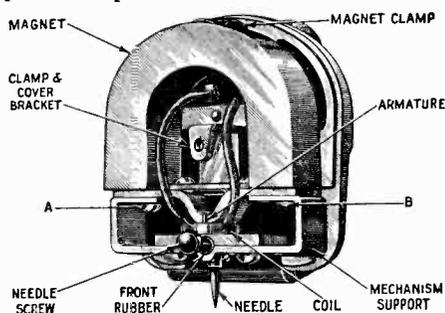

Figure 10—Pickup Nomenclature
- (d) Remove screws A and B, Figure 10, and then remove the mechanism assembly from the pole pieces.
- (h) After remagnetizing, it is necessary to correctly center the armature. This may be done quite accurately by feeling its play after the needle is inserted. A little practice will quickly show which way an adjustment is necessary to have the armature centered properly. The adjustment is made by loosening screws A and B (Figure 10), and sliding the mechanism slightly in relation to the pole pieces.
(8) REPLACING THE DAMPING BLOCK